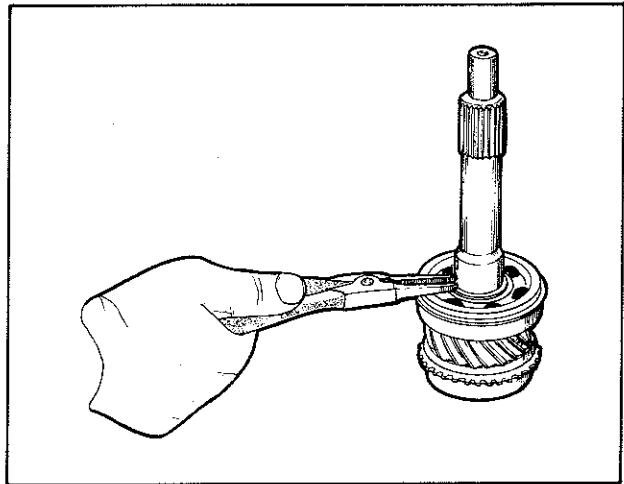

Fig. 16—Removing maindrive gear snap ring
- (1) Remove the needle rollers from the bore of the gear.
- (2) Remove the snap ring from the shank of the gear, Fig. 16.